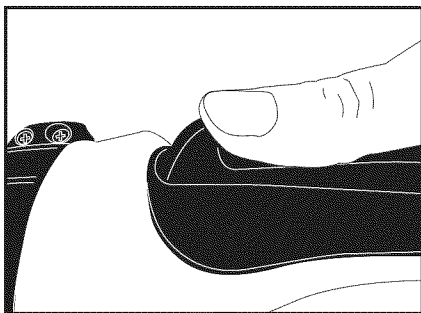

Figure 7
2. Push the trigger that your thumb rests on straight forward, this is the safety release. (see figure 7)